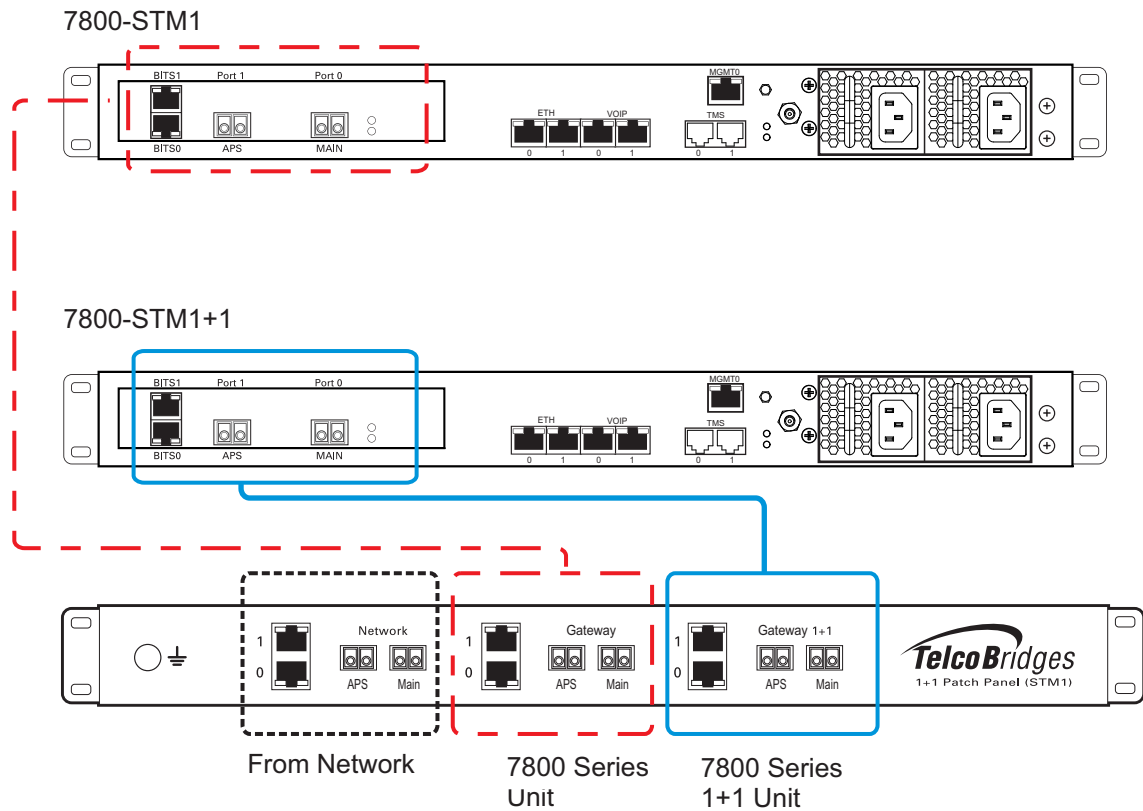

Figure 4.8 7800-STM1 and 7800-STM1 +1 connecting to the STM1 1+1 patch panel
1. Connect each OC3/STM1 line of the network section of the 1+1 patch panel to the remote equipment. See figure 4.8 on page 35.